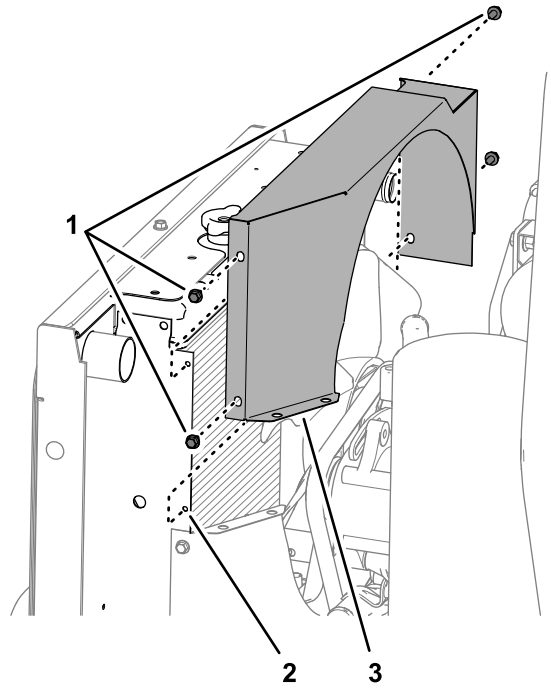

Figure 18
1. Remove the 4 flange head screws (1/4 x 1/2 inch) that secure the upper fan shroud to the flange of the radiator, and remove the shroud from the machine (Figure 18).